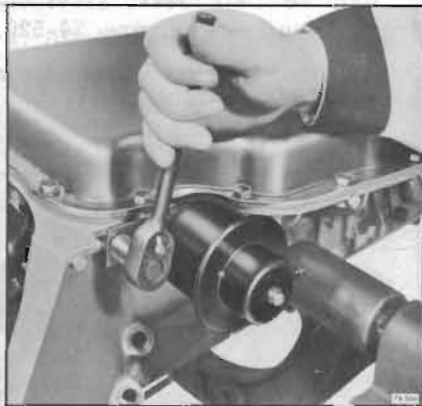

Figure 74-505
4. Remove modulator assembly attaching bolt and retainer. See Figure 74-505.